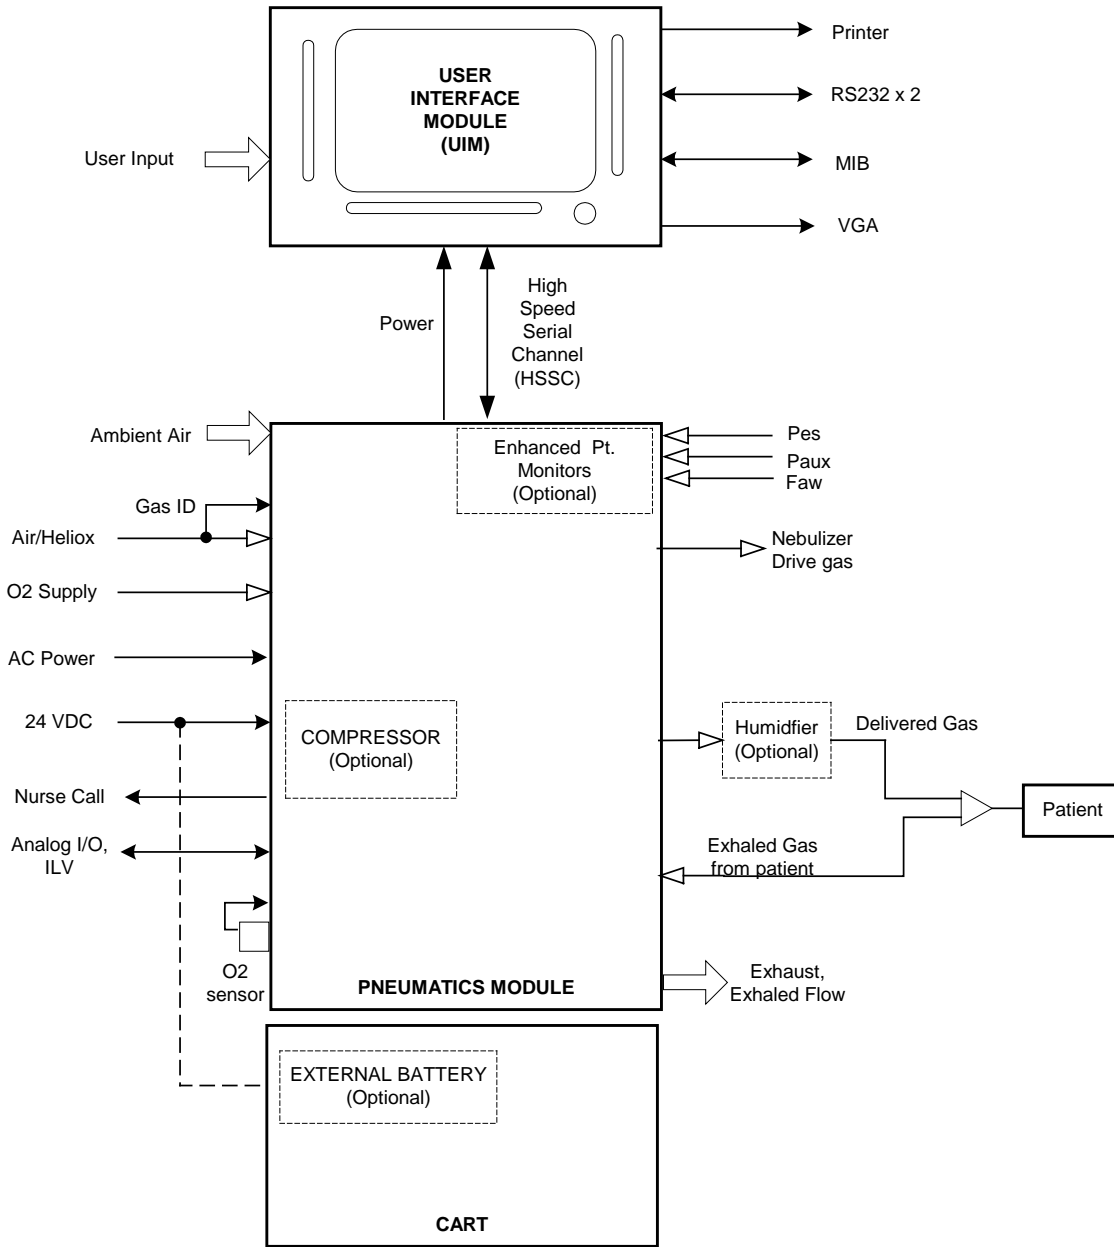

Figure 2.1 High End Device Modular Diagram
Avea has been designed with three basic modules, the user interface module (UIM), the pneumatics module (PM), and the stand (see Figure 2.1). The UIM contains a graphical user interface (GUI) which utilizes a 12.1-inch SVGA color LCD screen with integral touch screen. The UIM also contains a control PCB that has two microprocessors, control and monitor. The monitor processor manages the GUI, while the control processor has the real time control system that controls all of the mechanical valves in the PM. The UIM communicates with the PM via a high-speed serial channel (HSSC). The HSSC also provides power to the UIM.